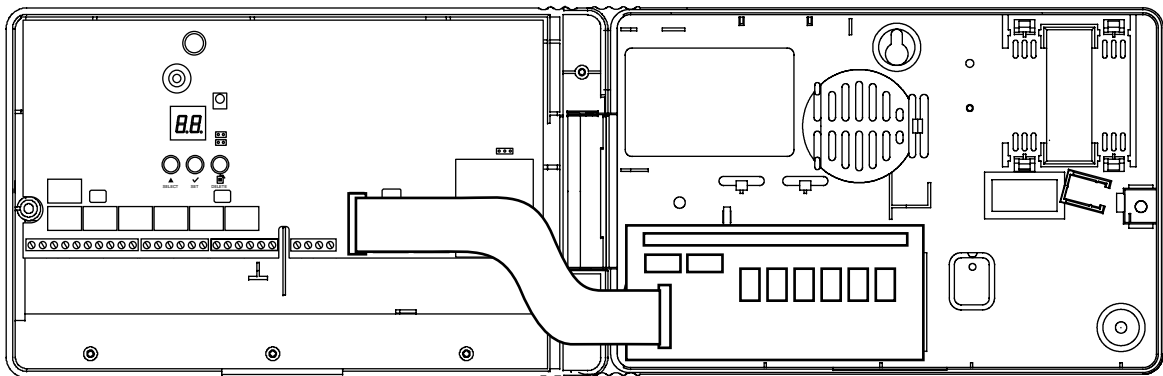

Figure 6. Locating The Relay Card
4. Hold the relay card in position in the back of the case (see Figure 6). The relays should be at the top and the ribbon cable connector at the left. The four screws should match four pre-drilled holes in the case.